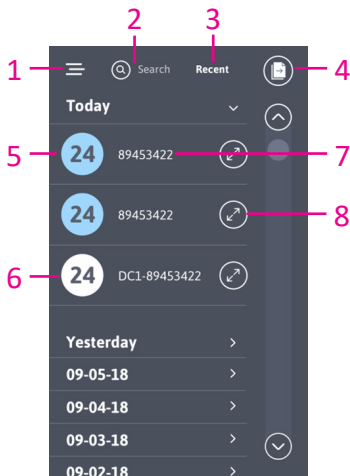

Figure 18
The Result Log is organized starting with the most recent test results shown first. Figure 18, displayed icons, listed left to right, top to bottom are:
4. The “Papers” icon in upper right corner is for exporting the last 7 days of records, either by printing or electronically via USB (Figure 18)
Records can be exported 7 days at a time as shown in Figure 18 or individually as shown in Figure 19. In either case, once the “Papers” icon is selected, it will bring up the Export Selection screen (Figure 20):